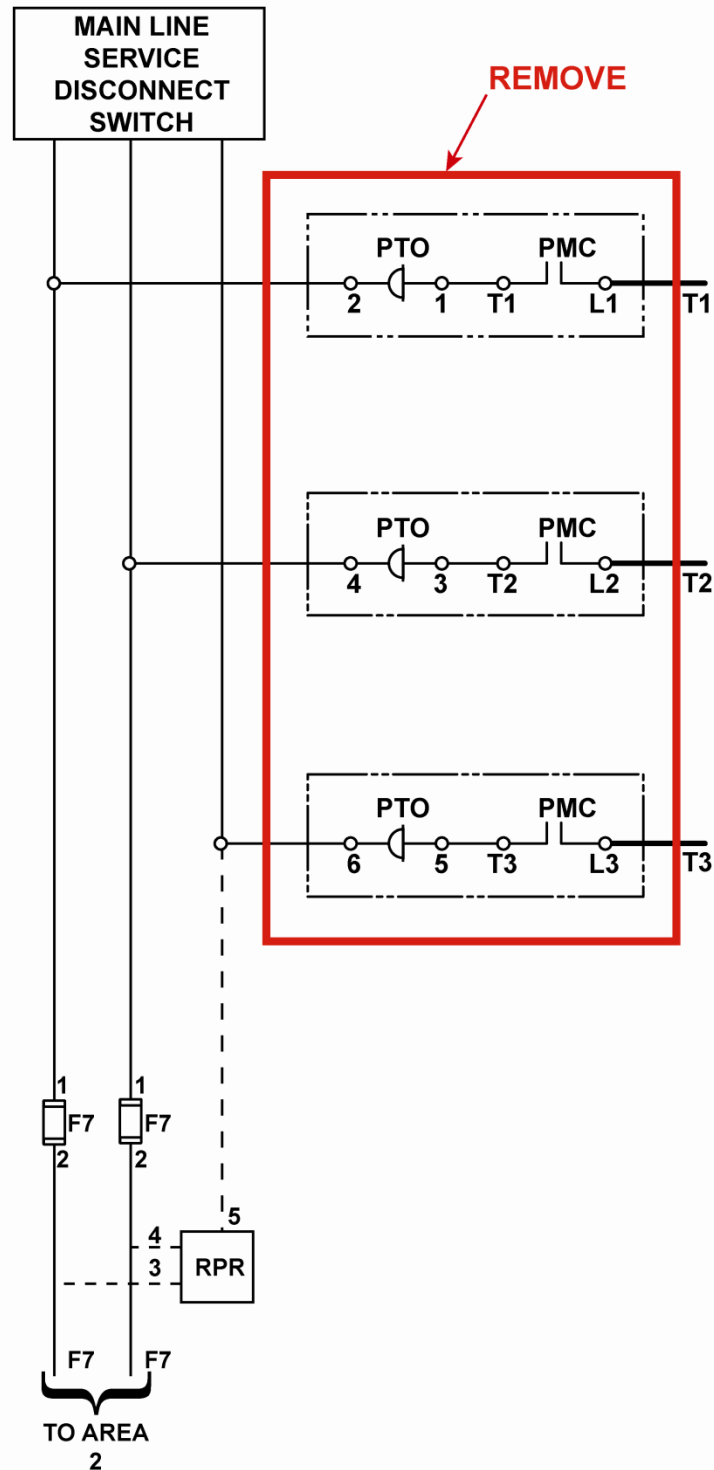

Figure 4: Removal of Across-the-Line Starter Overload and Motor Contactor
1. Refer to Figures 4, 5, 6, and 7. Identify, tag, and disconnect motor leads T1, T2, T3, T4 (T10), T5 (T11), and T6 (T12) from pump motor contactor(s). In some arrangements, the motor leads may be identified as MOT1, MOT2, etc.